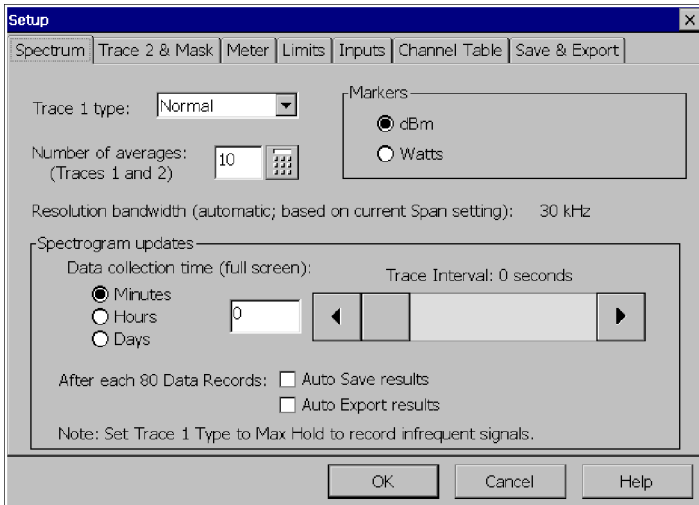

Figure 3-17: The Spectrum tab
2. Tap the **Spectrum** tab. See Figure 3-17.